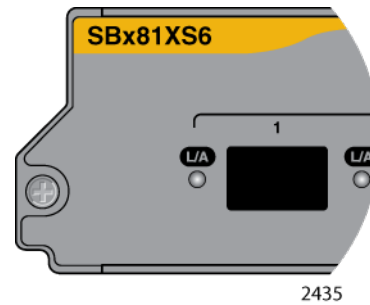

Figure 24. SFP+ Port LEDs on the AT-SBx81XS6 Line Card
**LEDs** The AT-SBx81XS6 Line Card has one LED for each SFP+ port. The LED is shown in Figure 24 on page 53 and described in Table 11 on page 53.